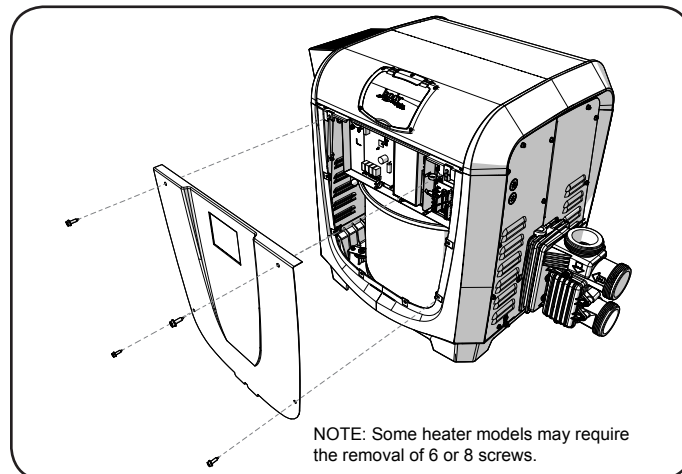

Figure 3. Remove Front Panel
- Remove the 4 screws holding the front heater panel in place to expose the raceway. See Figure 3